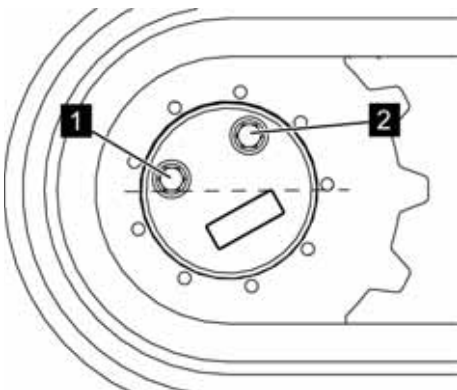

Fig. 141: Unscrewing the screw connections
5. ➤ Unscrew the screw connections (Fig. 141/1 and 2).